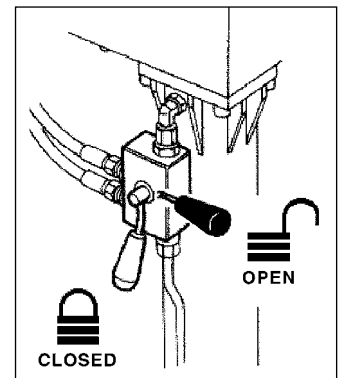

fig. 17
- When all manoeuvres are complete, check that the taps of the outrigger ram valves are closed. Fig. 17